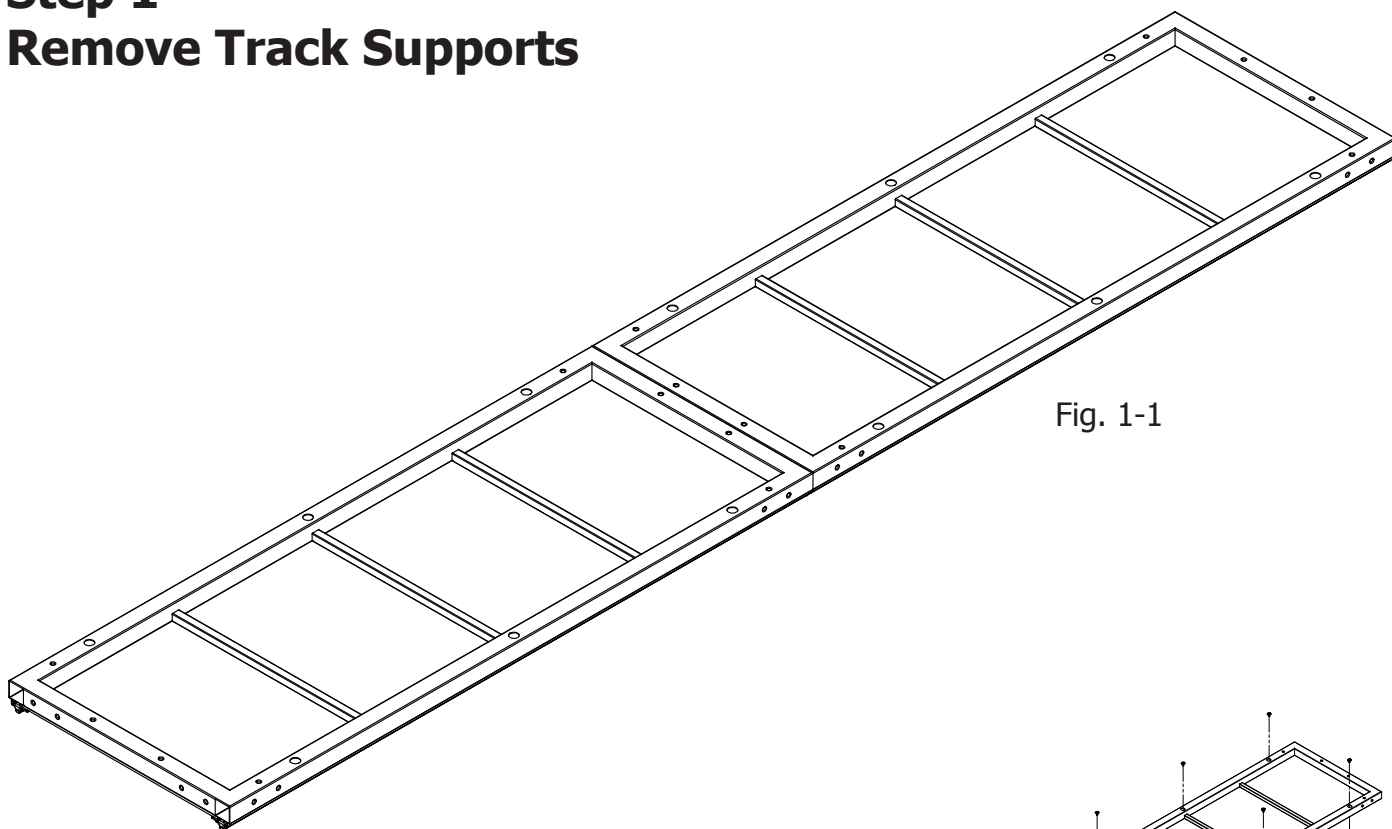

Fig. 1-1
**1-1:** Place the table sections with the track supports face down onto a protective surface. (**Fig. 1-1**)